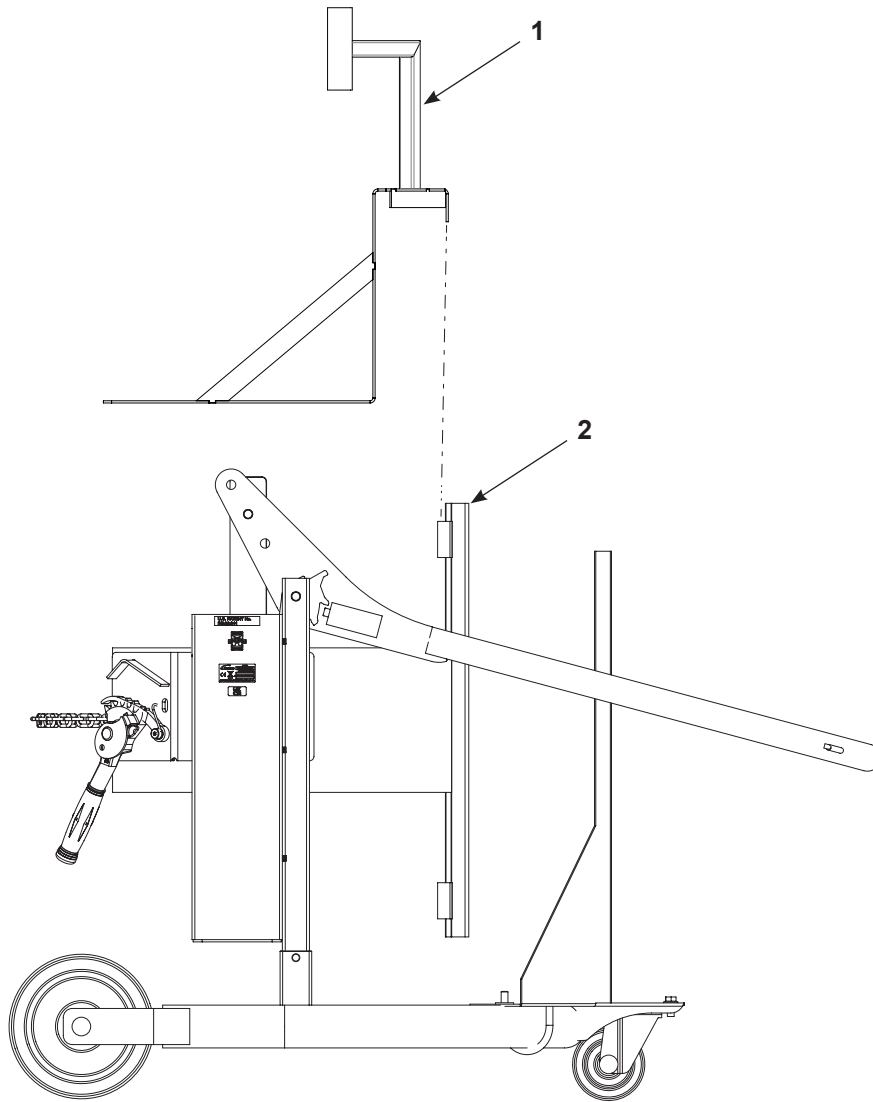

Figure 12 Optional Box Adapter Installation
See Figure 12. Slide the box adapter (1) onto the vibrator bracket (2) as shown.